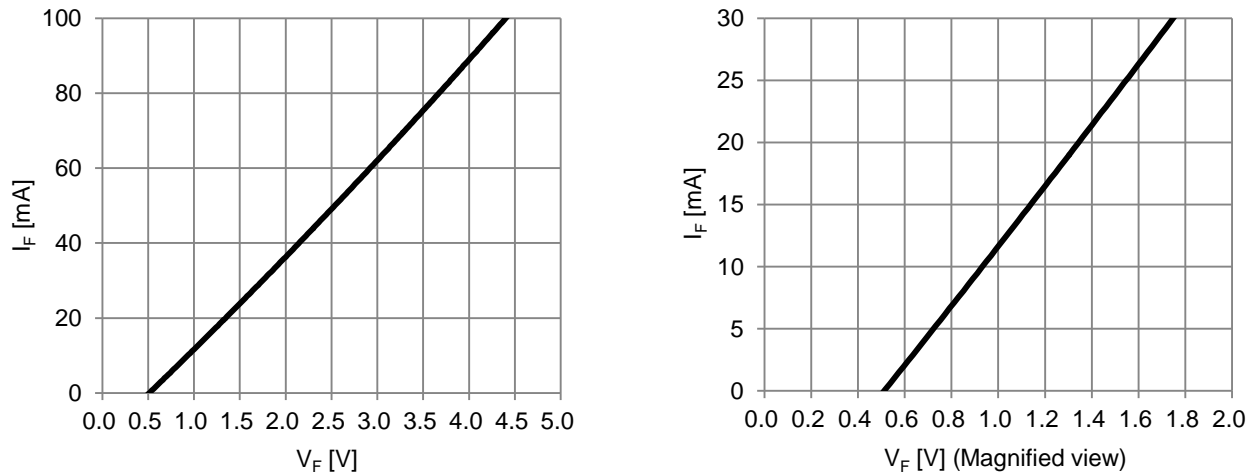

Figure 2. Built-in Bootstrap Diode  $V_F$ - $I_F$  Characteristic (@ $T_A=25^\circ\text{C}$ )
- The characteristics of bootstrap diodes are described in Figure 2.